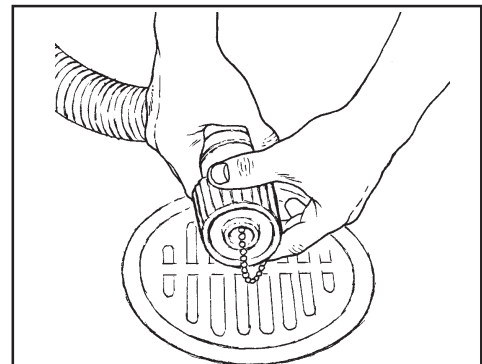

Figure 33
- 1.) Turn the valve housing to the left (See Figure 33).